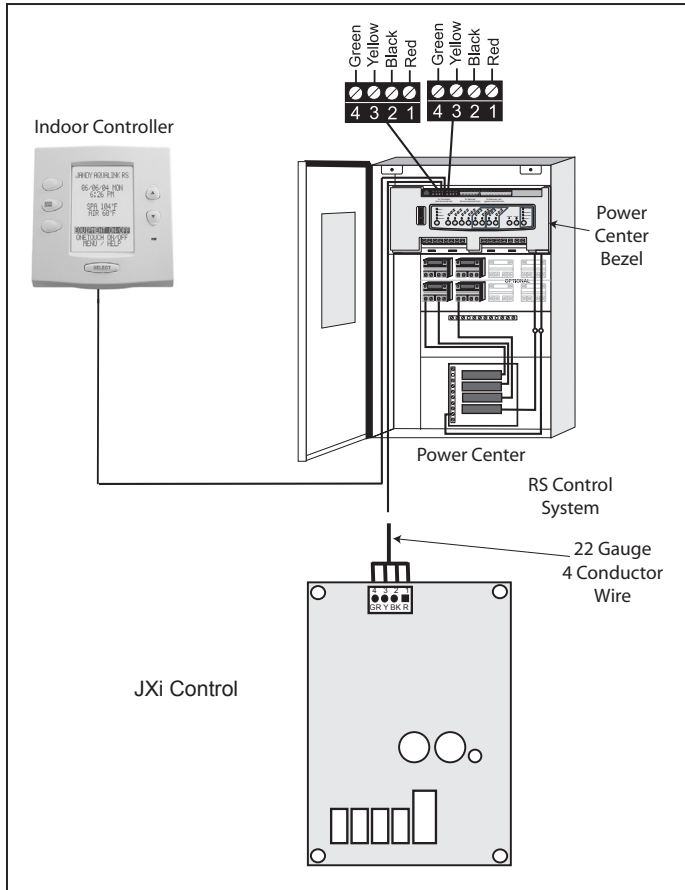

Figure 24. Wiring the JXi to a Zodiac® Remote
3. Use 22 gauge 4-conductor wire to run between the heater and the RS control and match the wire color order (Figure 24).
4. The wires coming from the heater can be "doubled up" on the red terminal bar with the four (4) wires from the indoor controller.